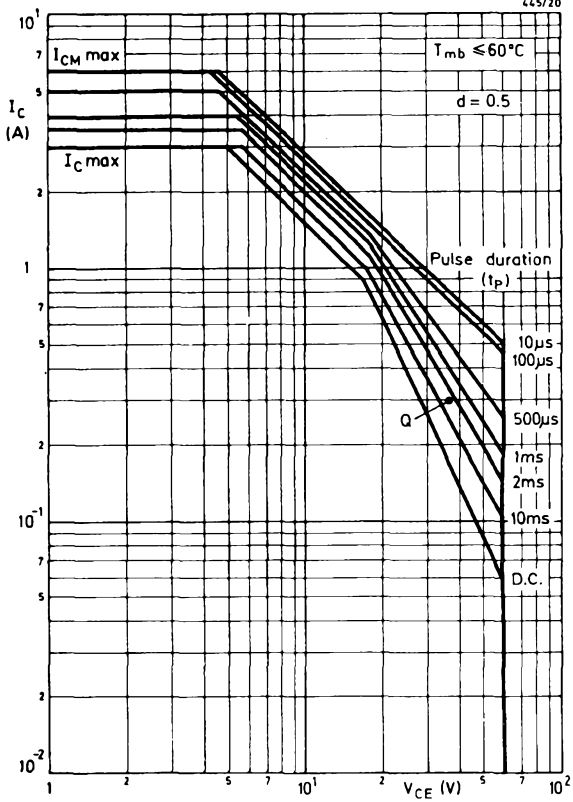

Fig. 5 —Typical SOAR family for $d = 0.5$ (50% duty cycle)
- 7) Plot the point given by the specific I_{CM} and V_{CEM} values, shown as point Q in Fig. 5.
- 1) Using linear interpolation between the 1 and 2ms curves at $d = 0.5$ (Fig. 5) draw a SOAR curve for $t_p = 1.7ms$. If point P is within this area then the conditions are acceptable and the heatsink thermal resistance can be calculated.